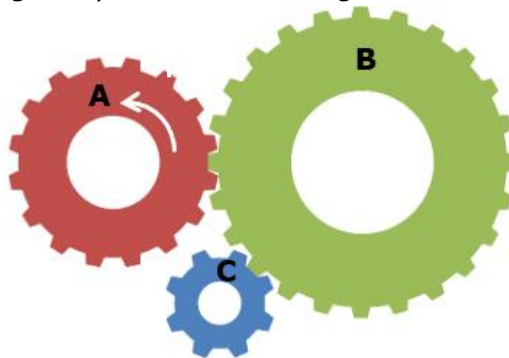

Figure 2: Gear system
c. Describe the outcome of the gear system shown in Figure 2.